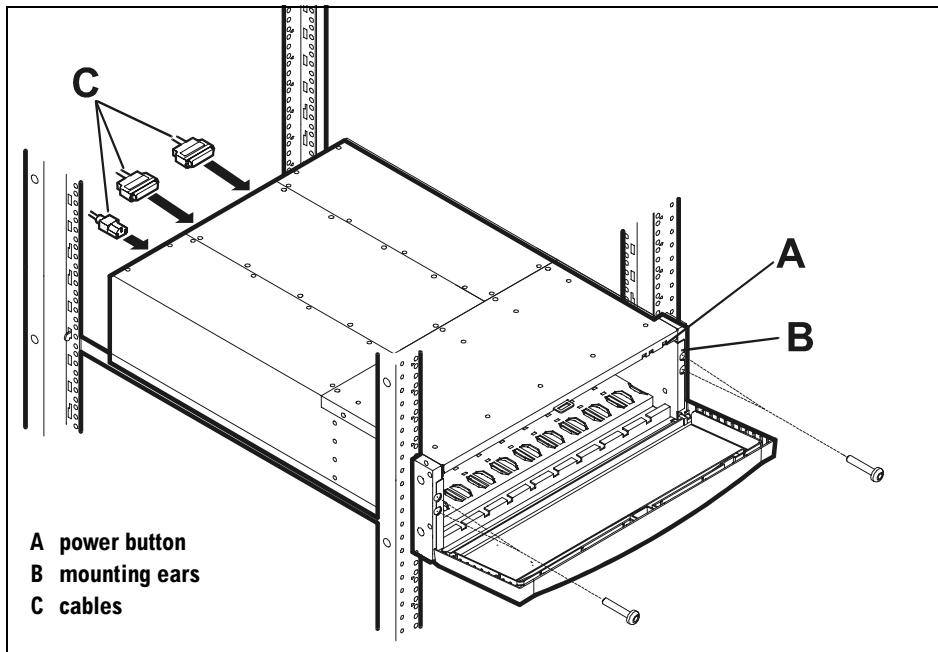

Figure 57 Disk System Removal and Replacement
3. Press and release the power button (A in Figure 57) to turn off the disk system.
5. Remove the screws from the disk system mounting ears (B).
3. Insert and tighten the screws in the mounting ears (B in Figure 57).
5. Reconnect SCSI cables and power cords (C).
6. Return to the front and press the power button (A) to turn on the disk system.